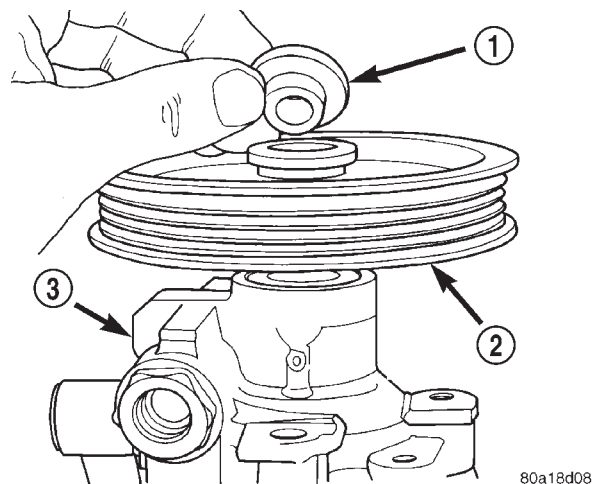

Fig. 26 Spacer Correctly Installed On Power Steering Pump Pulley
(3) Place Installation Spacer, Special Tool 6936 on top of the power steering pump pulley (Fig. 26).